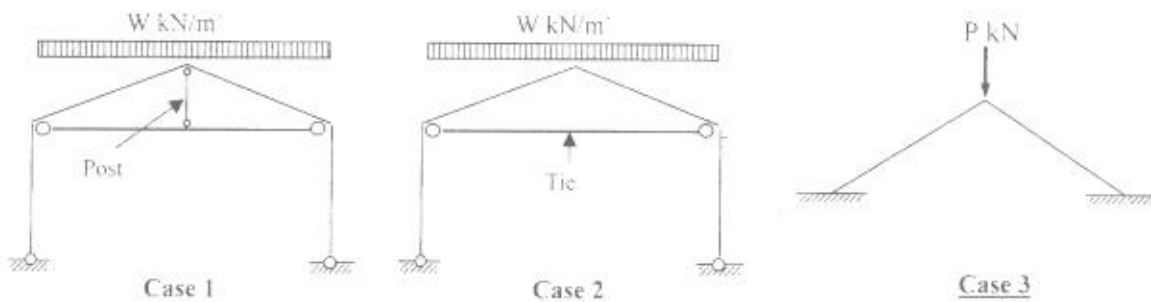

Fig. 2
B. Fig. 2 shows three frames under a given loads. It is required to sketch (without any calculations) B.M.D and the corresponding main steel. (6 marks)
**Question No. (3) (14 point)**
- (c) Fig. 2 shows the results of pile load test performed in single pile with the following properties; pile length = 19.0 m, pile diameter = 0.50 m; working pile load = 50 tons Find out the safe pile load, and check the settlement (7 point)